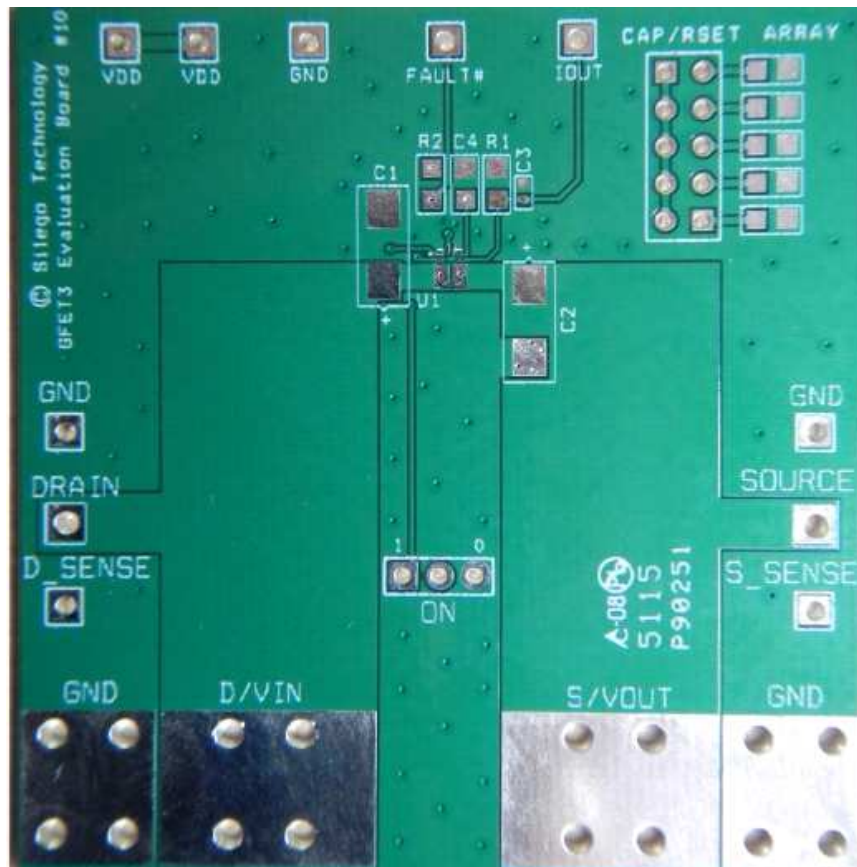

Figure 19. SLG59M1713V Evaluation Board
2. Since the VIN and VOUT pins dissipate most of the heat generated during high-load current operation, it is highly recommended to make power traces as short, direct, and wide as possible. A good practice is to make power traces with an absolute minimum widths of 15 mils (0.381 mm) per Ampere. A representative layout, shown in Figure 19, illustrates proper techniques for heat to transfer as efficiently as possible out of the device;
A GreenFET Evaluation Board for SLG59M1713V is designed according to the statements above and is illustrated on Figure 19. Please note that evaluation board has D\_Sense and S\_Sense pads. They cannot carry high currents and dedicated only for  $R_{DS(ON)}$  evaluation.